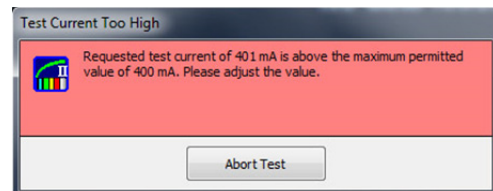

Figure 23: Test Current Limit Warning
2. Under **Thermal Response** select the box marked **Enable Test Current Limit**. Enter the maximum safe test current (milliamps). If the user inputs a test current that exceeds the set limit, a warning will be displayed and the test will be aborted (figure 23).